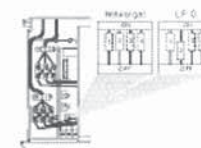

Figure 16.3
- Set correctly the dip-switch "2" to the correct position (Fig. 16.3) in accordance with the following table.